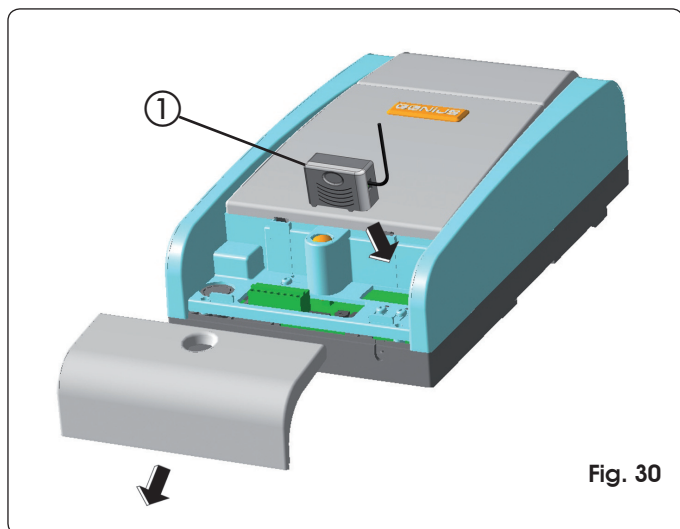

Fig. 30
The control unit has an integrated 2-channel decoding system. This system makes it possible to memory-store both total opening (OPEN A) and partial opening (OPEN B) of the automated system - this is made possible by an additional receiver module (Fig. 30 ref. ①) and radio controls on the same frequency.